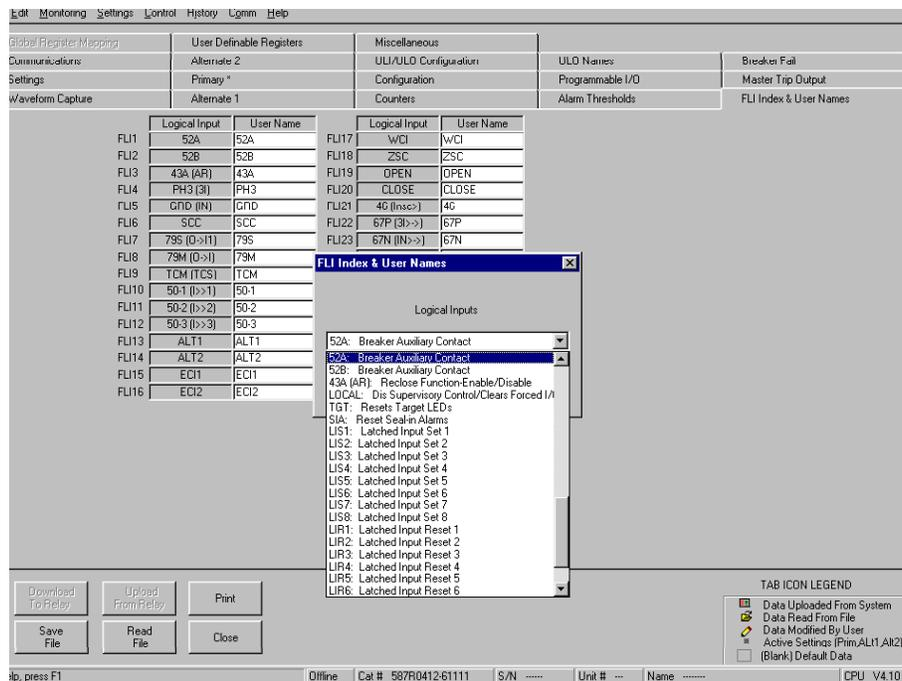

Figure 5-4. WINECP Forced Logical Input Mapping Screen
4. If one would wish to change the relay protective function element mapped to the specific LI, depress the “ENTER” key. The display in Figure 5-4 shall be displayed.
The usefulness of this feature cannot be understated. Each one of these functions can be forced via a network control. Programming need not be done to allow for function control via a network. If the relaying feature “RECLOSING” were to be enabled, the bit FLI 03 could be forced to an “ON” condition via the network control. If a desired control function were to be controlled via the network, then ECP mapping would have to be configured as per Figure 5-4.